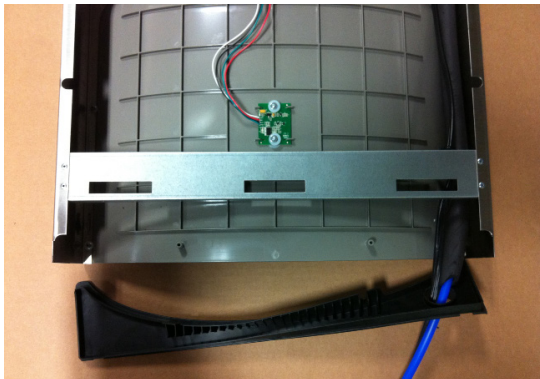

Fig. 9
- 1) **Remove two (2) mounting screws** with 5/32" Allen wrench holding top cover to Bottle Filler (See Fig. 9). Remove top cover. Note do not discard mounting screws, they will be needed to reinstall top cover.
- 5) **Feed power cord & 3/8" water line** through hole in tower/basin gasket (See Fig 9).